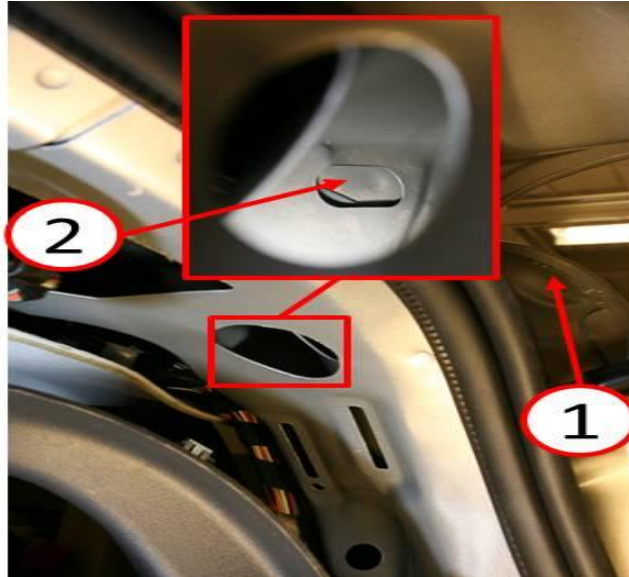

Fig. 2 Waterleak Inspection - Right Side Shown
2. Perform a water flow test for 20 minutes at the rear of the vehicle and inspect for any water leaking at the rear inner quarter panel of the right and/or left side as shown in (Fig. 2).
- 8. Was there any water leaking at the rear inner quarter panel of the right and/or left side as shown in (Fig. 2)?